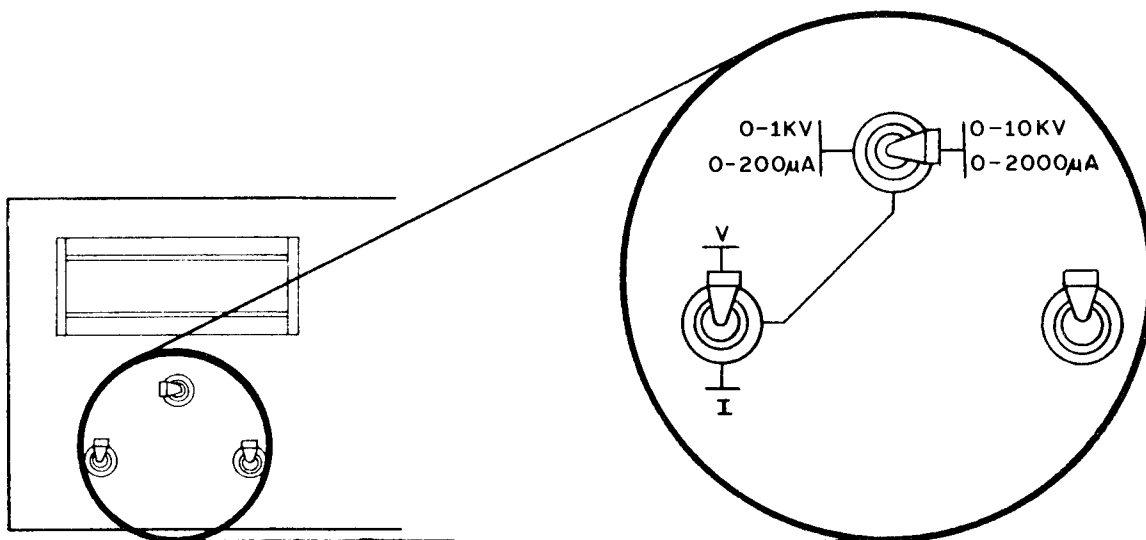

Figure 5. Set Controls in METER Section
- e. In the METER Section (see Figure 5):
- (1) Flip the selector switch to the "V" position.
- (2) Flip the range switch to the "0-10 KV" position.